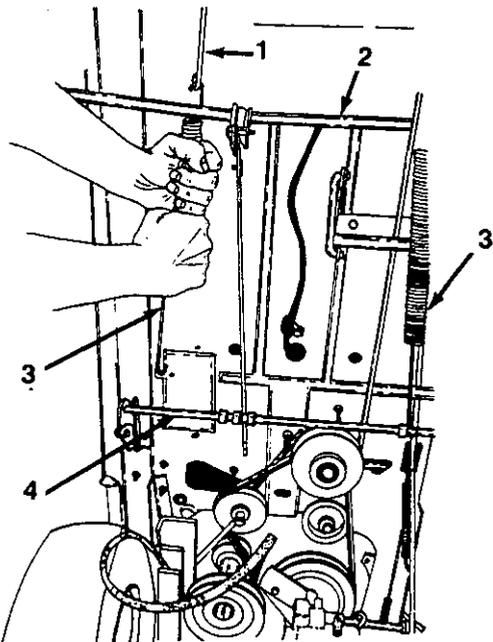

FIGURE 1.
1. Unhook one end of extension spring from deck link assembly rear and unhook the other end from spring hook. See figures 1 and 2.
2. Unhook one end of extension spring from deck link assembly rear and unhook the other end from blade engagement lever assembly. See figures 1 and 2.